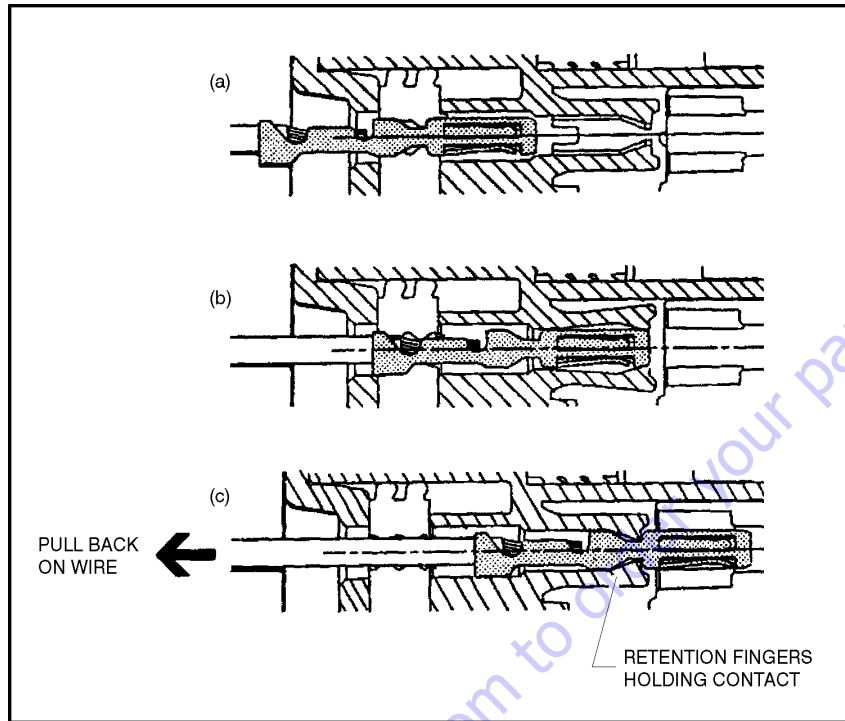

Figure 7-9. Connector Assembly Figure 2
1. To insert a contact, push it straight into the appropriate circuit cavity as far as it will go (See Figure 7-9).
2. Pull back on the contact wire with a force of 1 or 2 lbs. to be sure the retention fingers are holding the contact (See Figure 7-9).